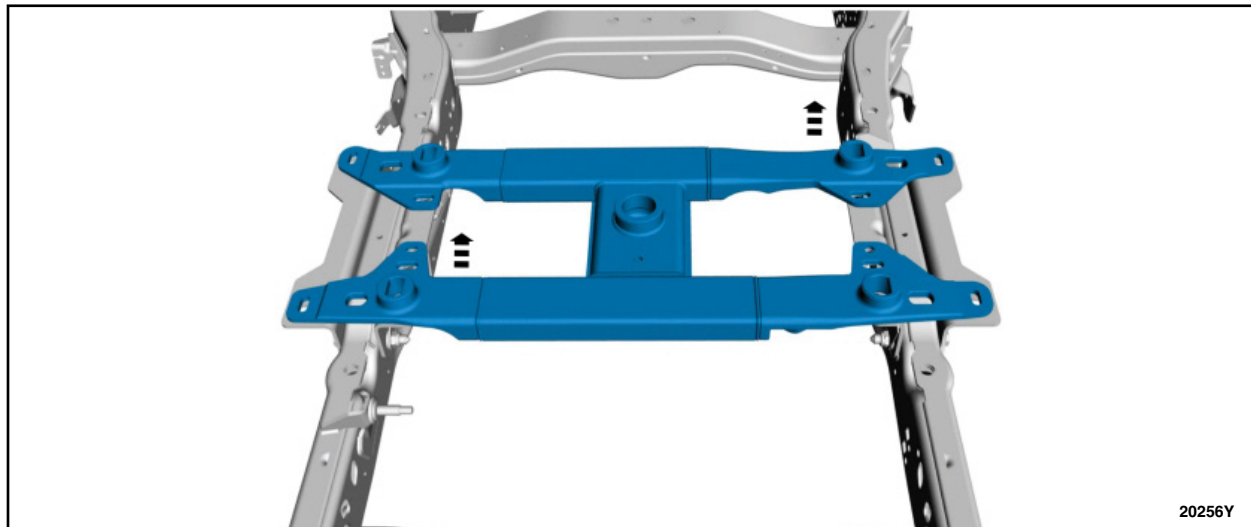

FIGURE 20
27. If equipped, remove the hitch assembly. See Figure 20.